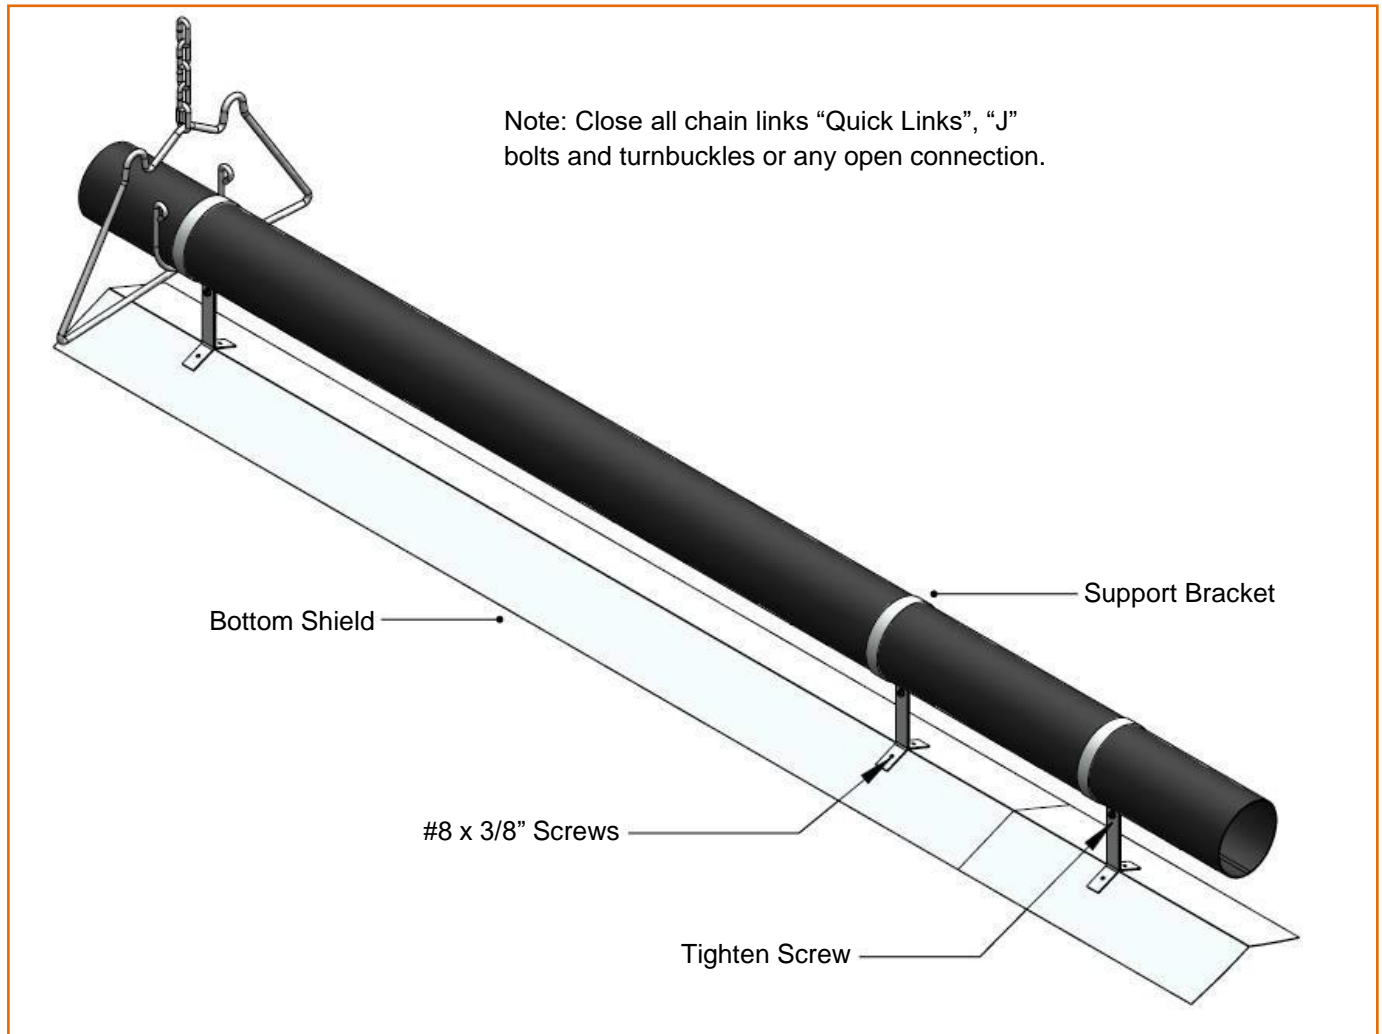

Figure 19: Bottom Shield Installation
- Bottom shields need not overlap. Each 5' section is held with two support brackets (see Figure 19).